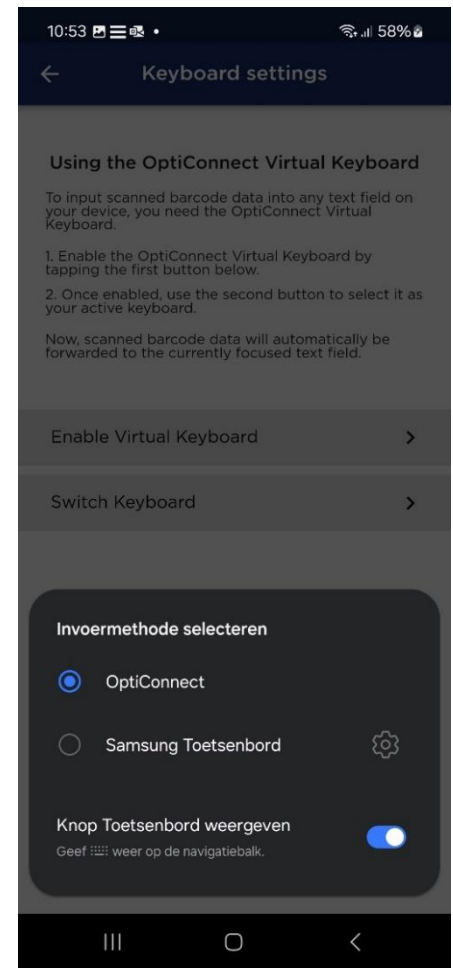

Figure 9-3: The Android *Choose input method* popup where you can switch between keyboards to use.
- Press the *Switch Keyboard* button and select OptiConnect to switch to the OptiConnect keyboard (see Figure 9-3).